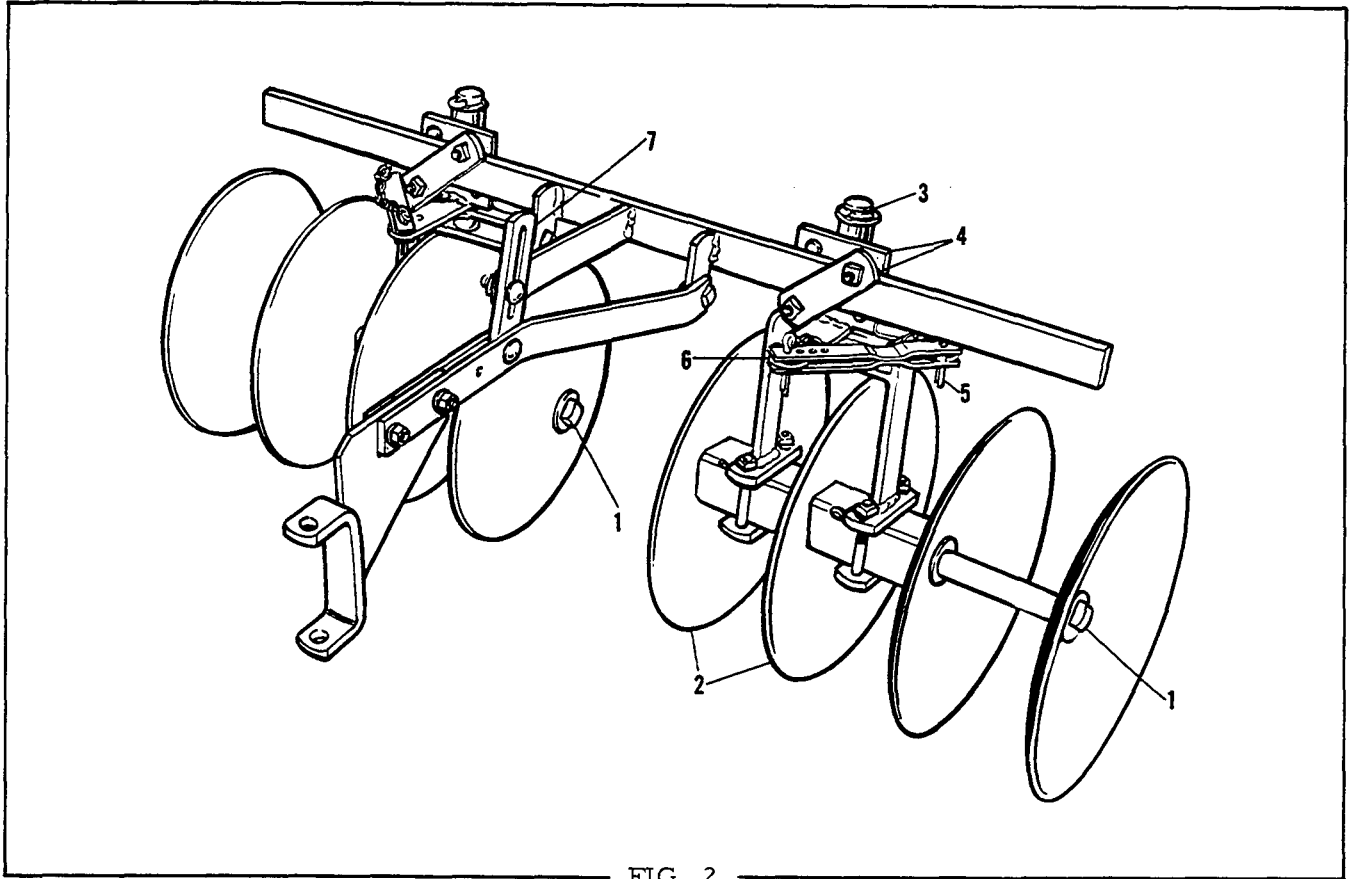

FIG. 2
ASSEMBLY (Fig. 2)
2. Clamp the disc gangs in place on the tool bar (3) using clamps (4), carriage bolts (5), hex nuts (6) and lockwashers as shown in Fig. 2.
To attach the disc harrow to the tractor, it will first be necessary to attach the clevis assembly to the tractor tow assembly using the pivot pin and hair pin cotters. See Fig. 2. Mount the lift pin in place in the tube of the tractor lift and fasten with pin and hair pin cotter.